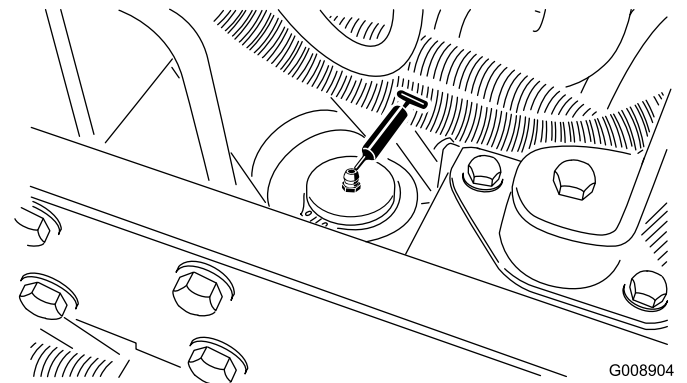

Figure 57
- Steering cylinder (Figure 57).